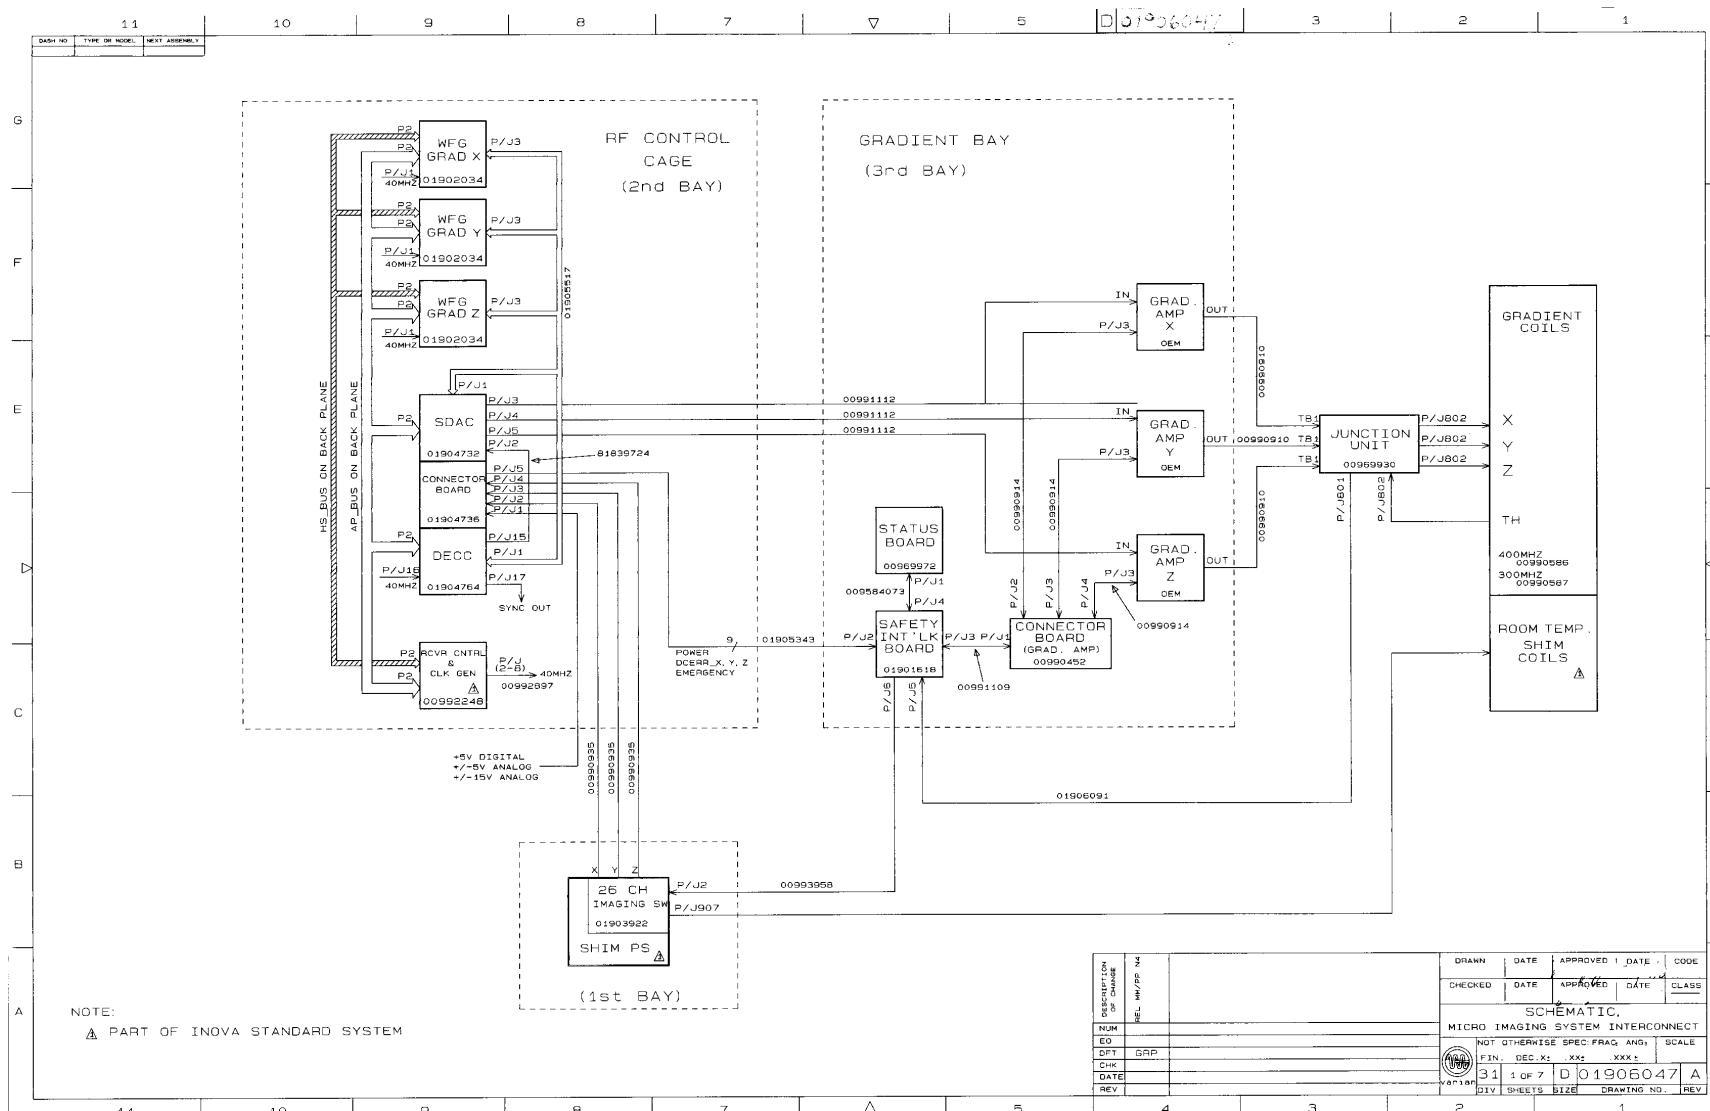

Figure 4. UNITY/INOVA Microimaging Interconnect
3. Using the SMB cables that were used in the microimaging cabinet to provide 40 MHz to the Waveform Generator boards, connect a 40-MHz clock from the Receiver Controller to each of the Waveform Generator boards. Use an SMB T (58-180018-00) if not enough outputs are available. See Figure 4.